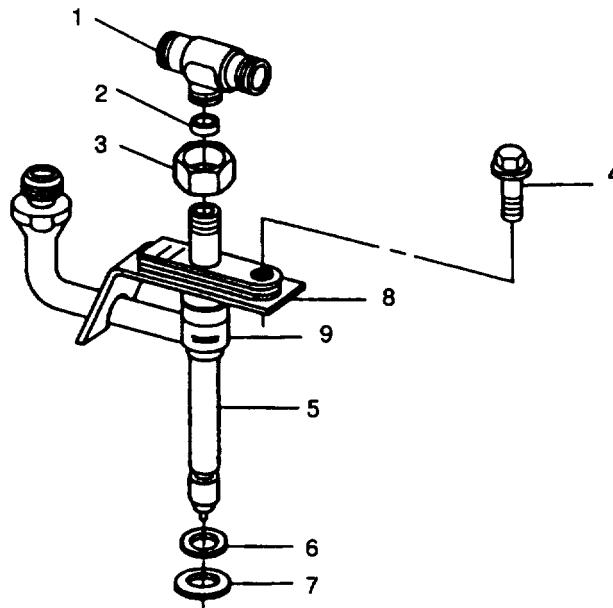

FIGURE 3-92. Fuel Injection Nozzle
- a. Loosen coupling nut (3, FIGURE 3-92) and remove tee (1) from nozzle (5). Remove and discard grommet (2).
- a. Remove carbon stop seal (6, FIGURE 3-92) and upper sealing washer (7), using a needlenose pliers. Discard seal and washer.
Each time an injection nozzle is removed from cylinder head, replace carbon stop seal (6, FIGURE 3-92) with a new one.
- b. Make sure that sealing surface of the cylinder head (on which the seal washer (7, FIGURE 3-92) will be resting) is smooth and free of damage or dirt. This could prevent proper sealing. Dirt and roughness could also cause distortion to nozzle when the attaching bolt (4) is tightened, making the valve stick.
- c. Install nozzle (5) in cylinder head using a slight twisting motion as nozzle is seated in bore.
- d. Install bolt (4). Do not tighten bolt (4) at this time.